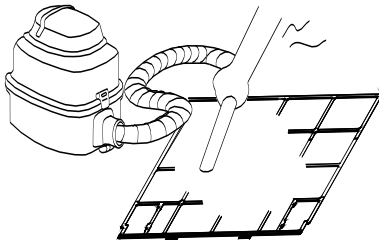

Fig.G3
4. The air on side should face up when using vacuum cleaner. See Fig.G3